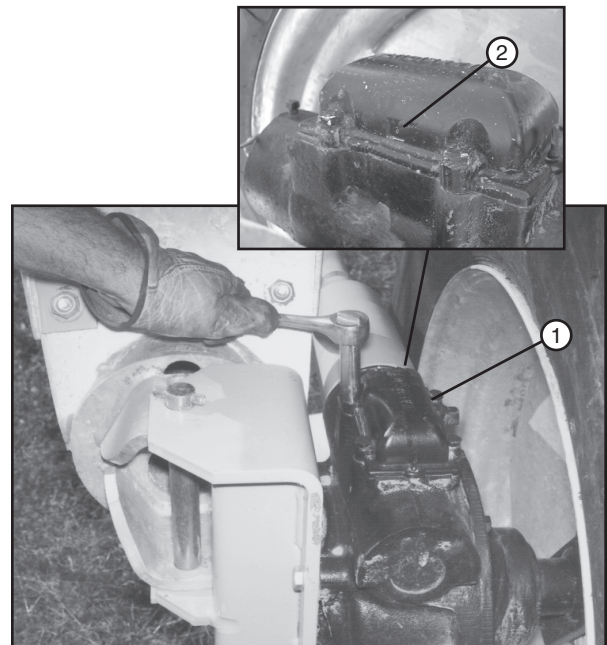

Figure 89-2 1. Expansion Chamber Cap
5. Clean all of the dirt away from the expansion chamber cap and remove the expansion chamber cap. Do not allow dirt to fall into the gearbox when removing the cap. See figure 89-2.